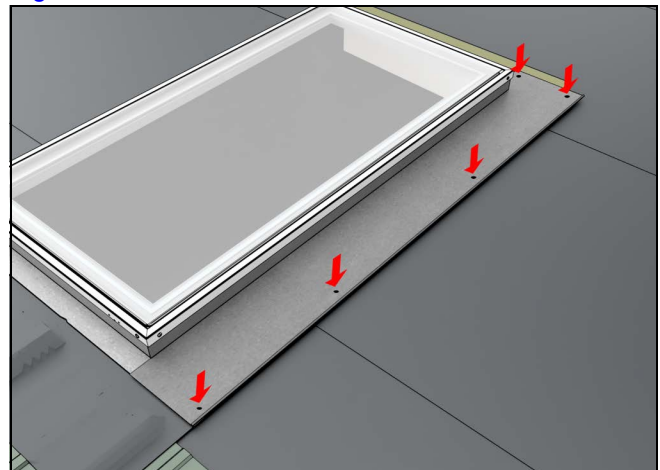

Figure 51
4. Cut both jamb flashings at the top, flush with the top/head of unit, bend tab down. *Note: Ensure the rigid flashing components do not interfere with flashing cover kerf.* Attach tabs with a roofing nail if needed. See Figure 51.